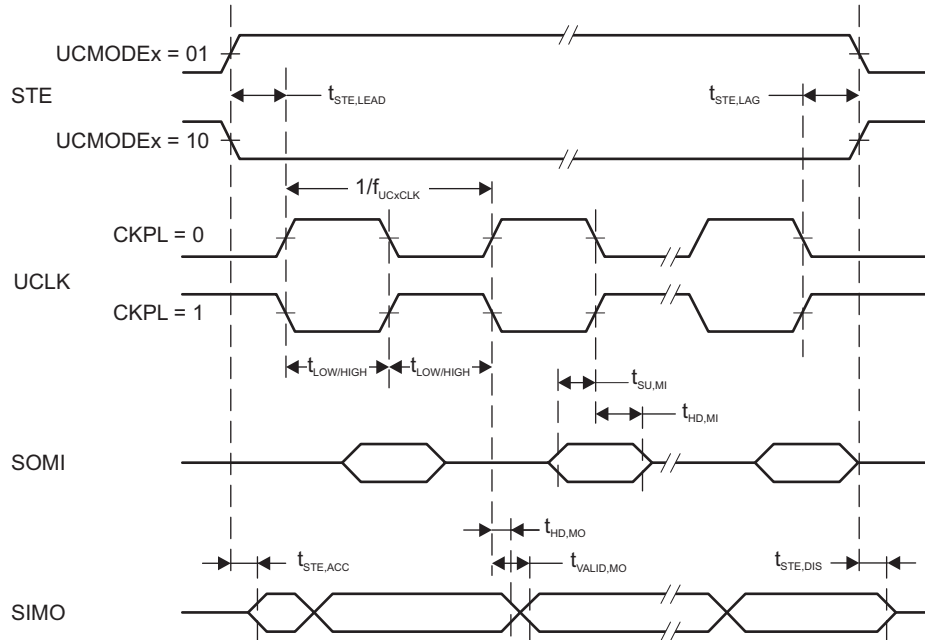
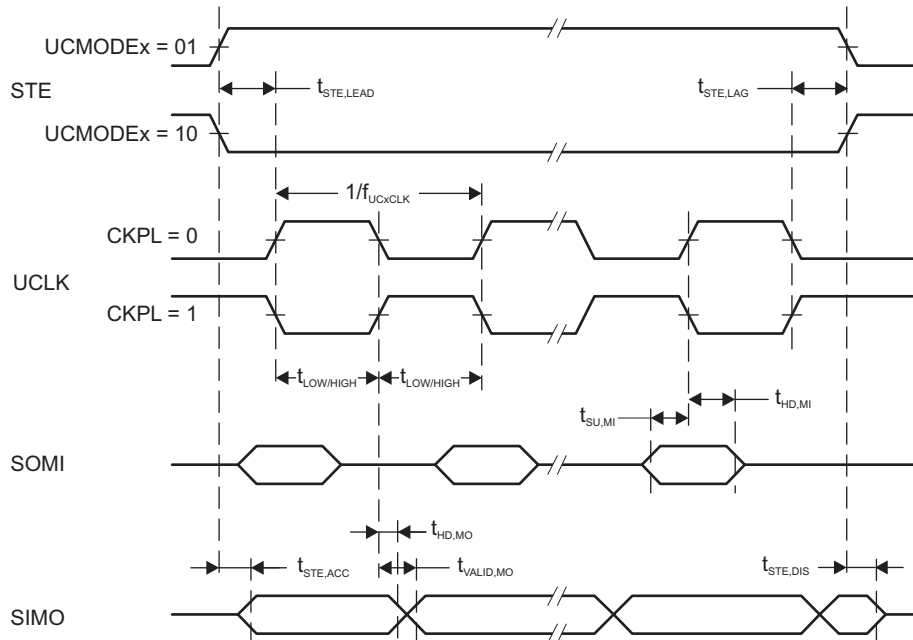

Figure 5-13. SPI Master Mode, CKPH = 0
Figure 5-14. SPI Master Mode, CKPH = 1
- (1) $f_{UCxCLK} = 1/2t_{LO/HI}$ with $t_{LO/HI} = \max(t_{VALID,MO}(eUSCI) + t_{SU,SI}(Slave), t_{SU,MI}(eUSCI) + t_{VALID,SO}(Slave))$. For the slave parameters $t_{SU,SI}(Slave)$ and $t_{VALID,SO}(Slave)$, see the SPI parameters of the attached slave.
- (2) Specifies the time to drive the next valid data to the SIMO output after the output changing UCLK clock edge. See the timing diagrams in Figure 5-13 and Figure 5-14.
- (3) Specifies how long data on the SIMO output is valid after the output changing UCLK clock edge. Negative values indicate that the data on the SIMO output can become invalid before the output changing clock edge observed on UCLK. Refer to the timing diagrams in Figure 5-13 and Figure 5-14.